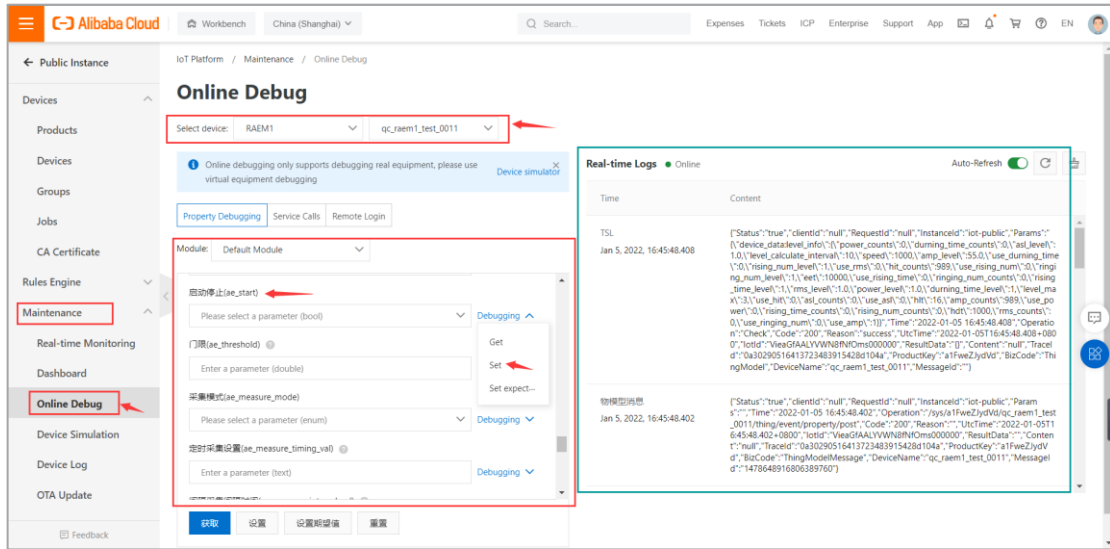

Fig. 6-27 Qingcheng Alibaba Cloud
- (5) Click “Online Debug” tab or under the “Maintenance” on the left menu to enter the online debugging page. Select online devices and start debugging and configurations. To modify the configurations, enter the new configuration values in the textbox on the left column and click “Debugging” >> “Set” to send the configurations to the devices. Click “Get” to read the current settings. (Figure 6-27)